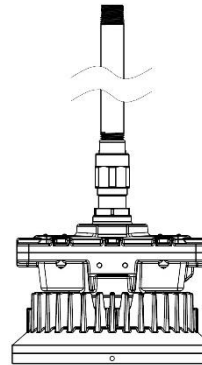

Figure 3
- ☞ The mounting type is for the use of Straight electrical tube mounting (Figure 3).